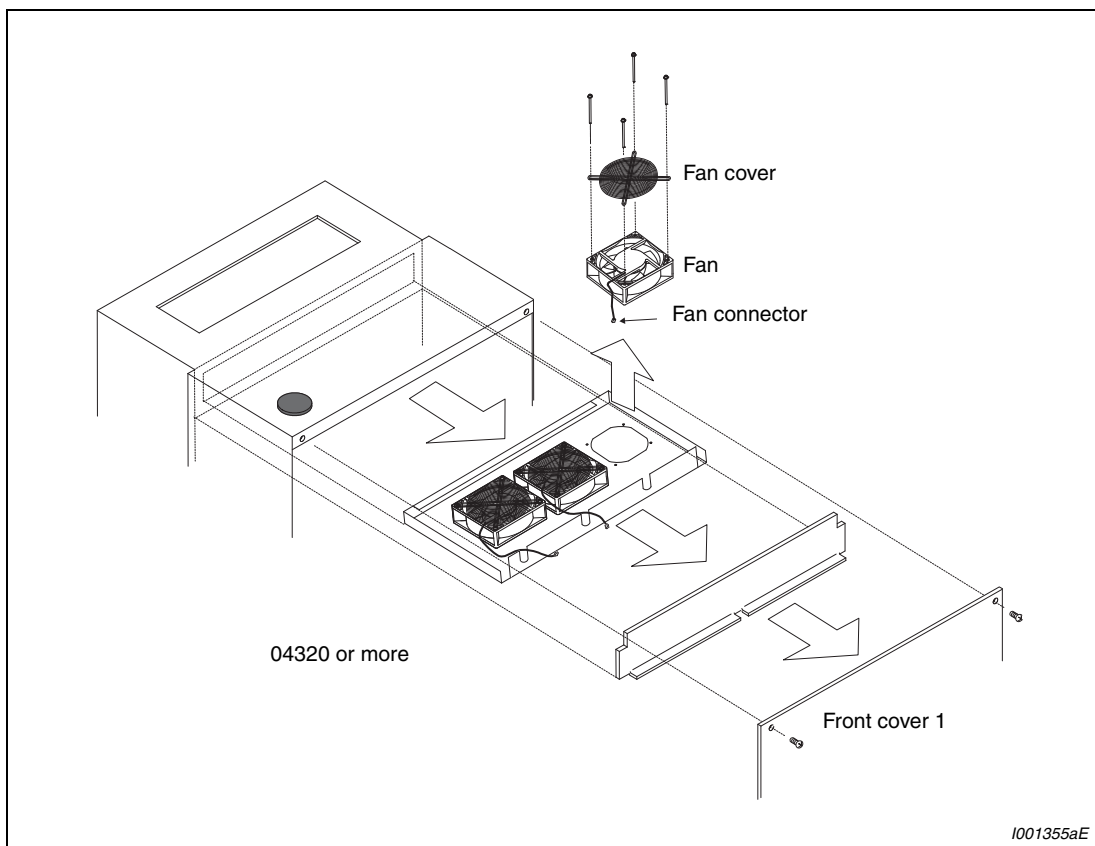

Fig. 8-9: Removal of the fan
- ② Install fans referring to Fig. 8-9. When installing the fan, use care to prevent wires from being caught between the inverter and fan.